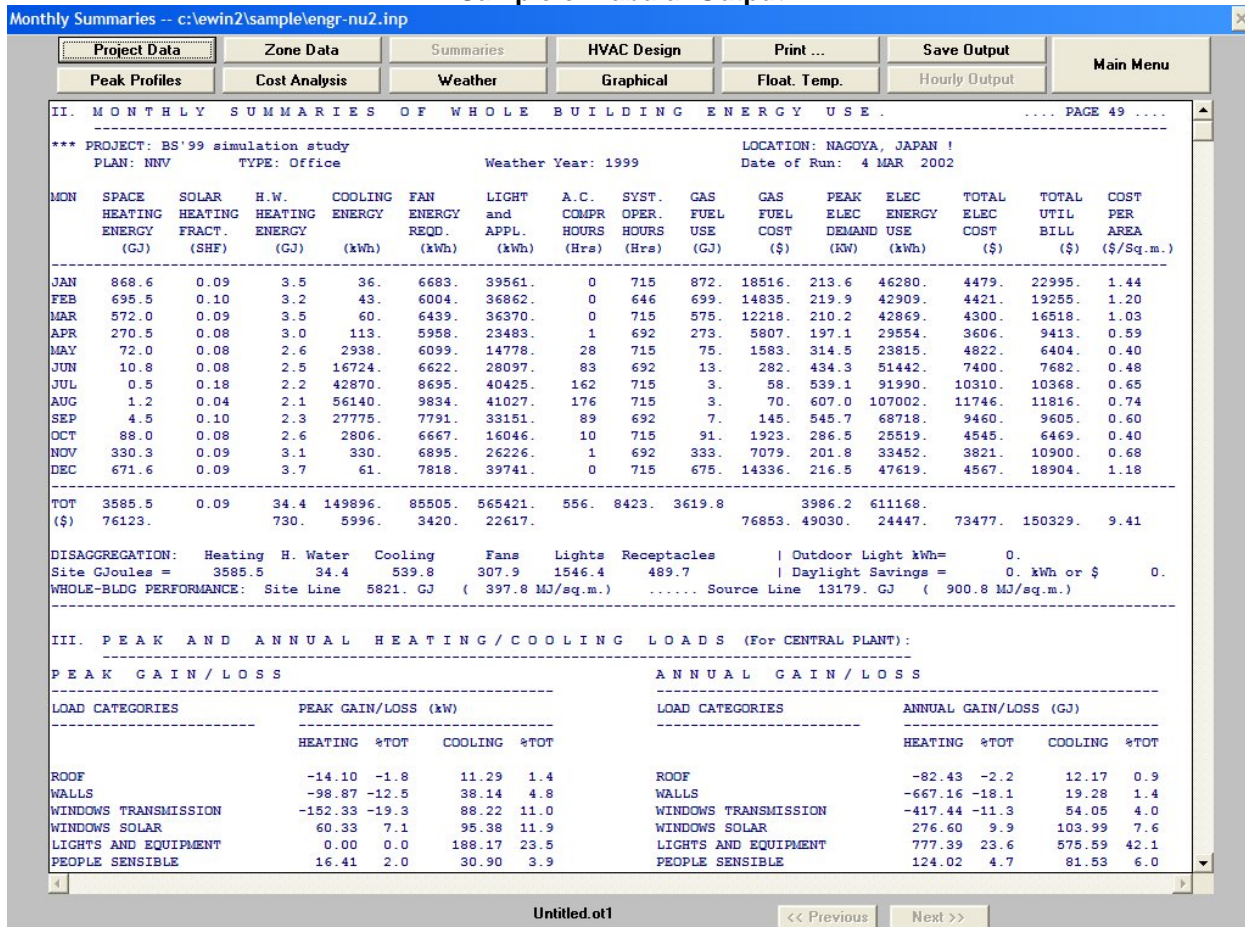
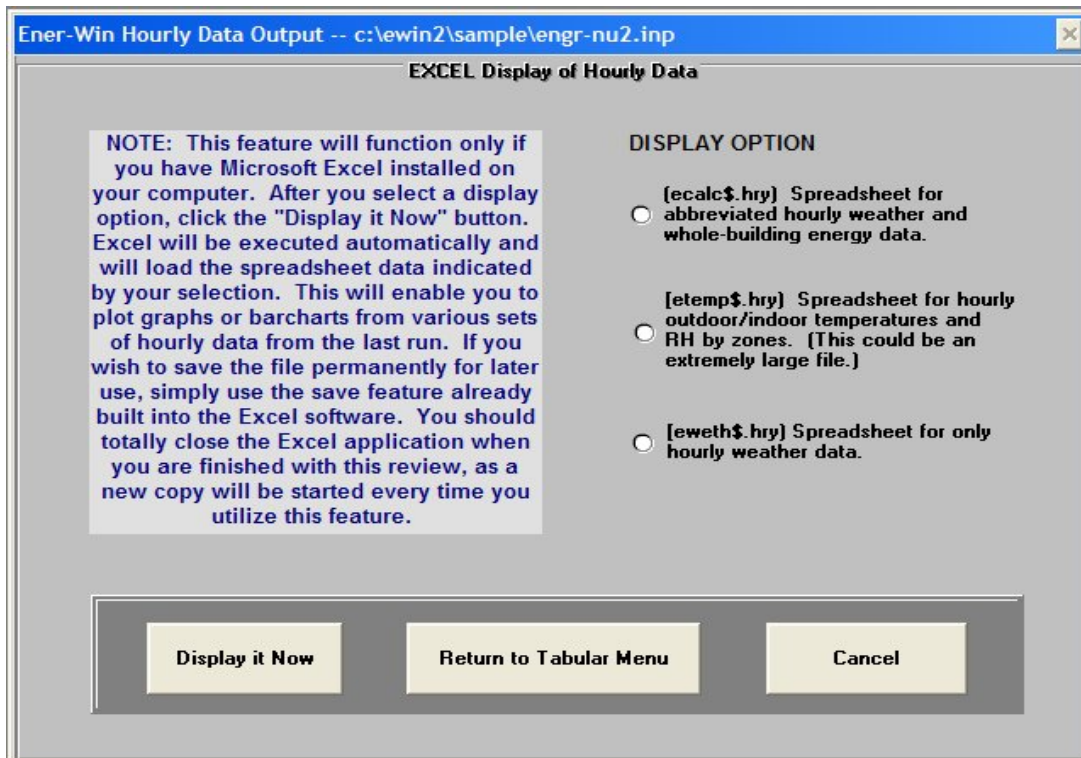

Fig. 21 Tabular output of monthly energy summaries
Fig. 22 The Hourly data dialog screen.
4. The output occupies 132 columns, which may not all fit on the screen; however, the program will automatically print the output in a smaller font that fits into the A4 or 8.5"x11" format. A good example of the 132-column format is shown in the Summary screen in Figure 21.
Note: The "Hourly Output" button will remain inactive (as shown in Figure 21) unless you had previously selected "Produce Hourly Output File" on the "Run Energy Simulation" screen. If you had selected the hourly option, you may click on the "Hourly Output" button to obtain the dialog box shown in Figure 22.